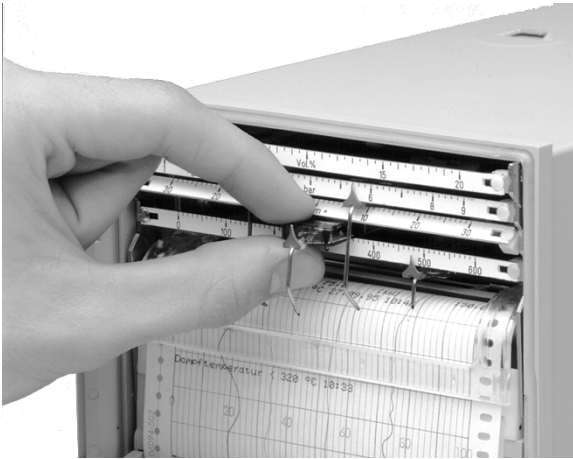

Figure 8 Installing the fiber pen insert
2. Install the fiber pen insert / print insert according to Figure 8.